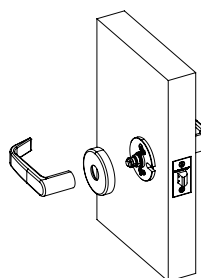

Figure 10
- Screw rose onto inside spring housing assembly, then install inside lever onto spindle. (Figure 10)